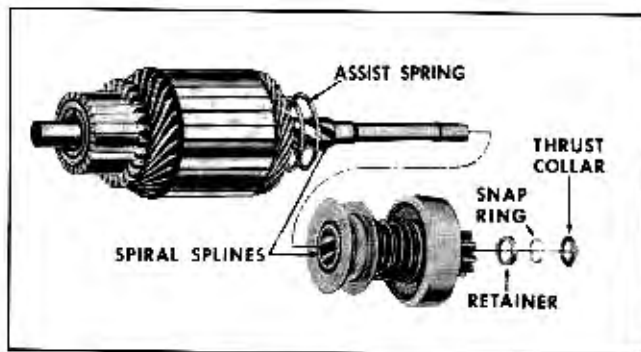

Fig. 12-36 Armature and Overrunning Clutch Assembly—Exploded
a. Slide thrust collar (Fig. 12-36) off end of armature shaft.
b. Slide clutch assembly onto armature shaft with pinion outward (Fig. 12-36).
c. Slide retainer onto shaft with cupped surface facing end of shaft (Fig. 12-36).
e. Assemble thrust collar on shaft with shoulder next to snap ring (Fig. 12-36).